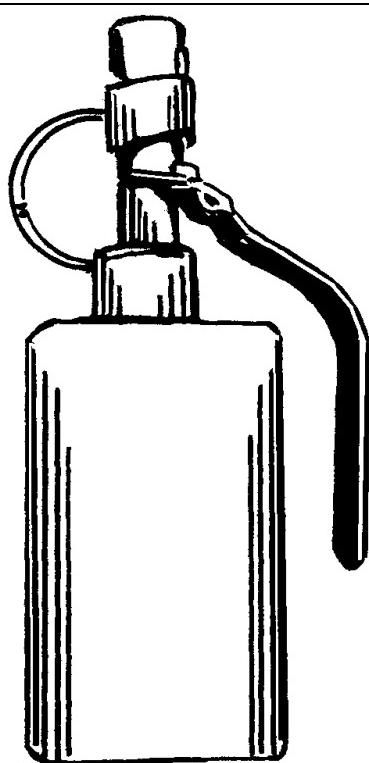

Figure D-10. North Korean fragmentation grenade (rectangular).
- Type: Fragmentation. (Figure D-10)